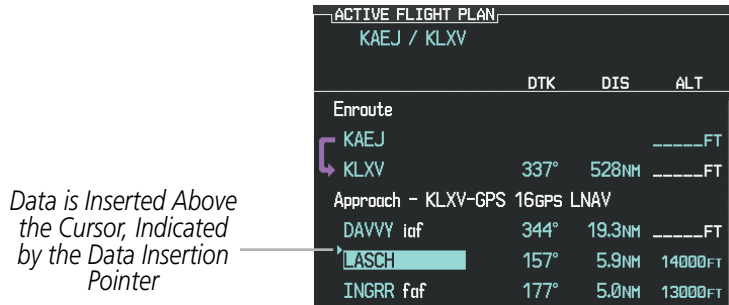

Figure 1-4 Data Insertion Pointer
- ④ **Heading Knob** – Turn to manually select a heading on the HSI. When pressed, it synchronizes the heading bug with the compass lubber line. Selected Heading provides the heading reference to the Flight Director while operating in Heading Select mode.
- ⑤ **Joystick** – Changes the map range (distance top to bottom of map display) when rotated. Activates the map pointer when pressed.
- ⑥ **CRS/BARO Knob** – The large knob sets the altimeter barometric pressure and the small knob adjusts the course. The course is only adjustable when the HSI is in VOR1, VOR2, or OBS/SUSP mode. Pressing this knob centers the CDI on the currently selected VOR. Selected Course provides course reference to the Flight Director when operating in Navigation and Approach modes.
- ⑦ **Dual COM Knob** – Tunes the MHz (large knob) and kHz (small knob) standby frequencies for the COM transceiver. Pressing this knob toggles the tuning cursor (light blue box) between the COM1 and COM2 fields.
- ⑧ **COM Frequency Transfer Key** – Transfers the standby and active COM frequencies. Pressing and holding this key for two seconds automatically tunes the emergency frequency (121.5 MHz) in the active frequency field.
- ⑨ **COM VOL/SQ Knob** – Controls COM audio level. Audio volume level is shown in the field as a percentage. Pressing this knob turns the COM automatic squelch ON and OFF.
- ⑩ **Direct-to Key** – Allows the user to enter a destination waypoint and establish a direct course to the selected destination (specified by the identifier, chosen from the active route, or taken from the map pointer position).
- ⑪ **FPL Key** – Displays the active Flight Plan Page for creating and editing the active flight plan, or for accessing stored flight plans.
- ⑫ **CLR Key (DFLT MAP)** – Erases information, cancels an entry, or removes page menus. To display the Navigation Map Page immediately, press and hold **CLR** (MFD only).
- ⑬ **Dual FMS Knob** – Press to turn the selection cursor ON/OFF.
- Data Entry:** With the cursor ON, turn to enter data in the highlighted field (large knob moves cursor location; small knob selects character for highlighted cursor location). When the cursor is turned ON while viewing the Active Flight Plan Page, the cursor is placed on the line below the Data Insertion Pointer see Figure 1-4. The pointer indicates data entered at the cursor will be inserted above the line selected.
- ⑭ **MENU Key** – Displays a context-sensitive list of options. This list allows the user to access additional features, or to make setting changes that relate to certain pages.